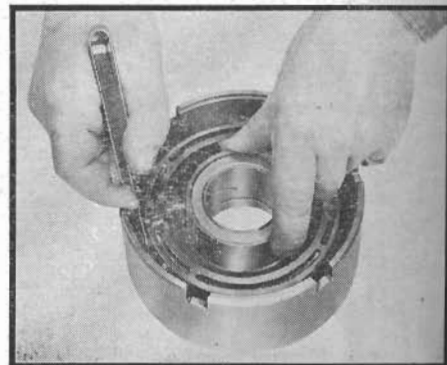

Fig. 30 Checking seating of clutch piston outer seal. 1953-59
3. Place small amount of transmission oil on inner diameter of clutch drum and onto seals. Then carefully install piston into clutch drum, using a piece of feeler stock to insure seating of outer ring seal in clutch drum, Fig. 30.